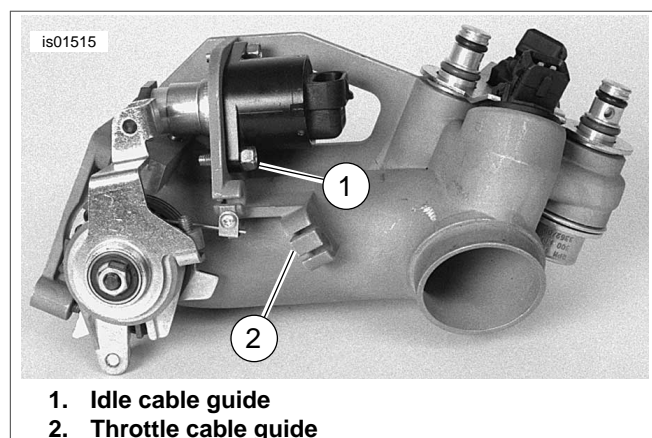
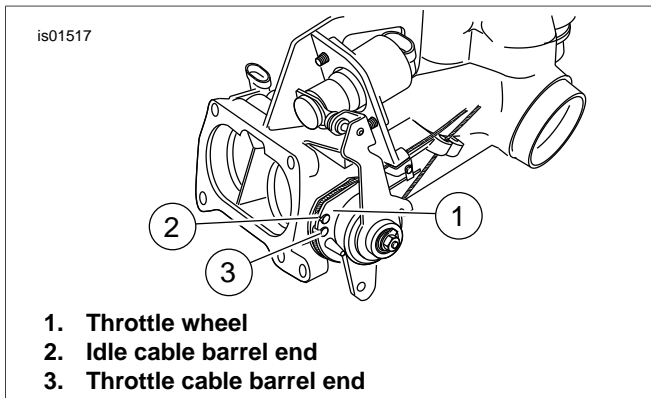

Figure 5. Throttle Cable Assembly (Fuel Injected Models)
Figure 6. Throttle Cable Assembly (Fuel Injected Models)
Fuel Injected Models: See Figure 5. Remove idle and throttle control cables from integral cable guides (1, 2) cast at front of induction module. See Figure 6. Pull cable barrel ends (2, 3) from holes in throttle wheel (1).
Fuel Injected Models: See Figure 5 and Figure 6. Route the idle control cable around the top of the throttle wheel, insert barrel end into upper hole. Route the throttle control cable around the bottom of the throttle wheel and insert barrel end into lower hole. Using slots, slip throttle and idle control cables into cable guides cast at front of induction module.